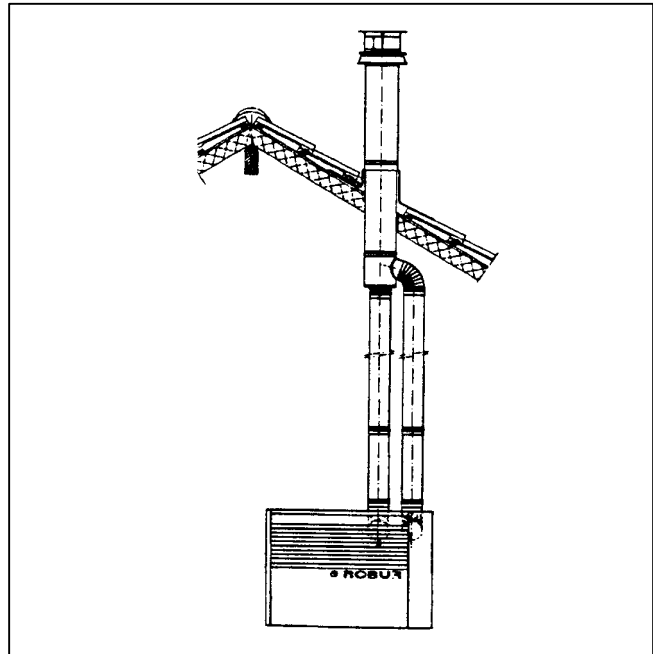

Figure 8
- installation type **C32** : combustion products' exhaust and combustion air intake occur by means of either coaxial or separate vertical flues. The unit is fully air-tight within the environment in which it is installed (see Figure 8).